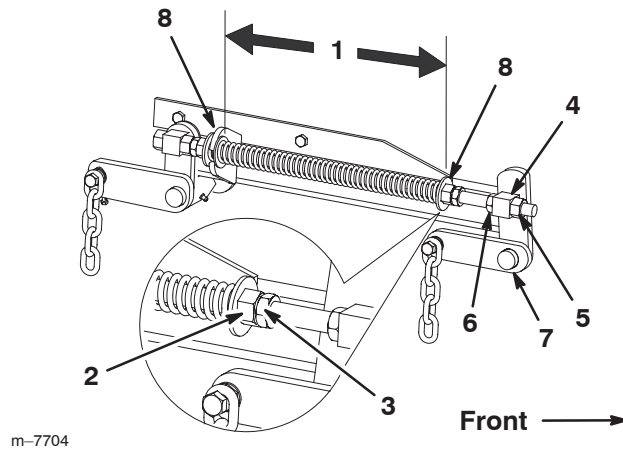

Figure 55
- Loosen the front swivel jam nuts, at the front of the right and left swivels, approximately 1/2 inch (13 mm) (Fig. 55).
- Adjust the lift nuts on both the left and the right side of the machine to achieve **1/4 to 3/8 inch (6 to 10 mm) lower in front at A than in the rear at B** (Fig. 55).
- Raise the mower lift lever to the transport position (Fig. 55).
- Check the distance between the 2 large washers; it must be 10-1/2 inches (26.7 cm) (Fig. 55).
- Adjust this distance by loosening the spring jam nut and turning the nut in front of each spring (Fig. 55).
- Lock the nut into position by tightening the spring jam nut (Fig. 55).